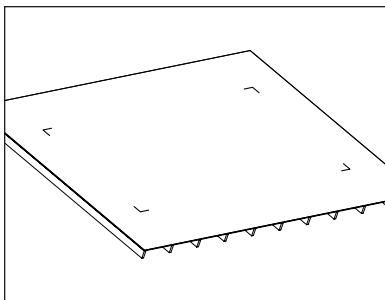

Figure 5.3A
2. Mark the perimeter of the array to verify that the location of the array is consistent with the design drawings and confirm that the array will not be unnecessarily shaded (Figure 5.3A).